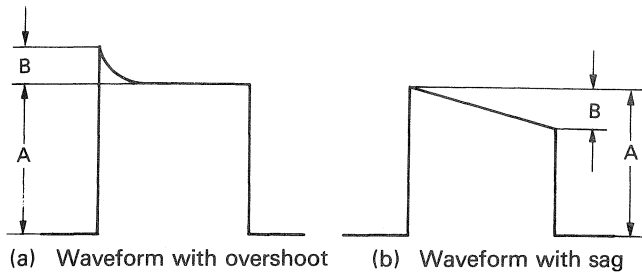

Fig. 6
4. Pulse waveform distortion (see Fig. 6)
Most pulse waveforms observed have an overshoot, sag and other forms of distortion. These forms of distortion are defined as the ratio of amplitude B of the distorted section to amplitude A of the ideal waveform (Fig. 6).